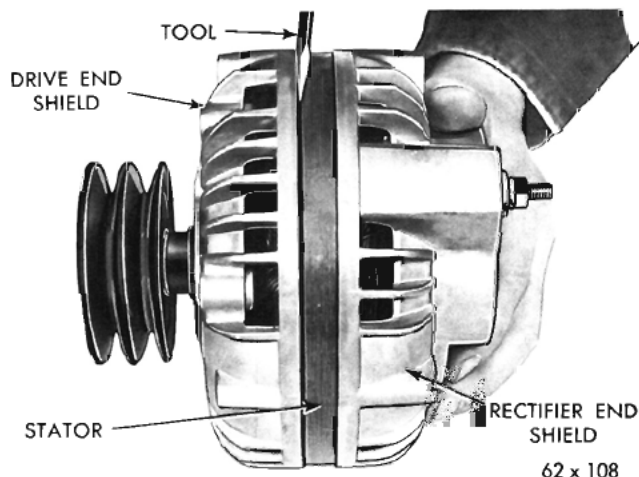

Fig. 17—Separating Drive End Shield from Stator
(3) Remove the through bolts and pry between the stator and drive end shield with the blade of a screwdriver, Fig. 17. Carefully separate the drive end shield, pulley and rotor assembly away from the stator and rectifier shield assembly.